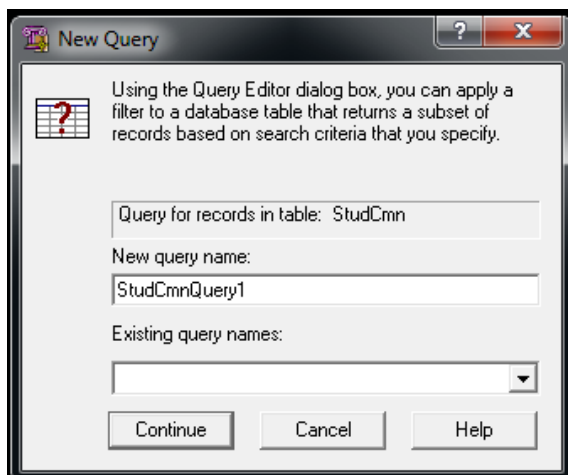

Fig. 10. Window *New Query*
- to press the right mouse button on the name of the link *StudCmnLink1* from Fig. 10;